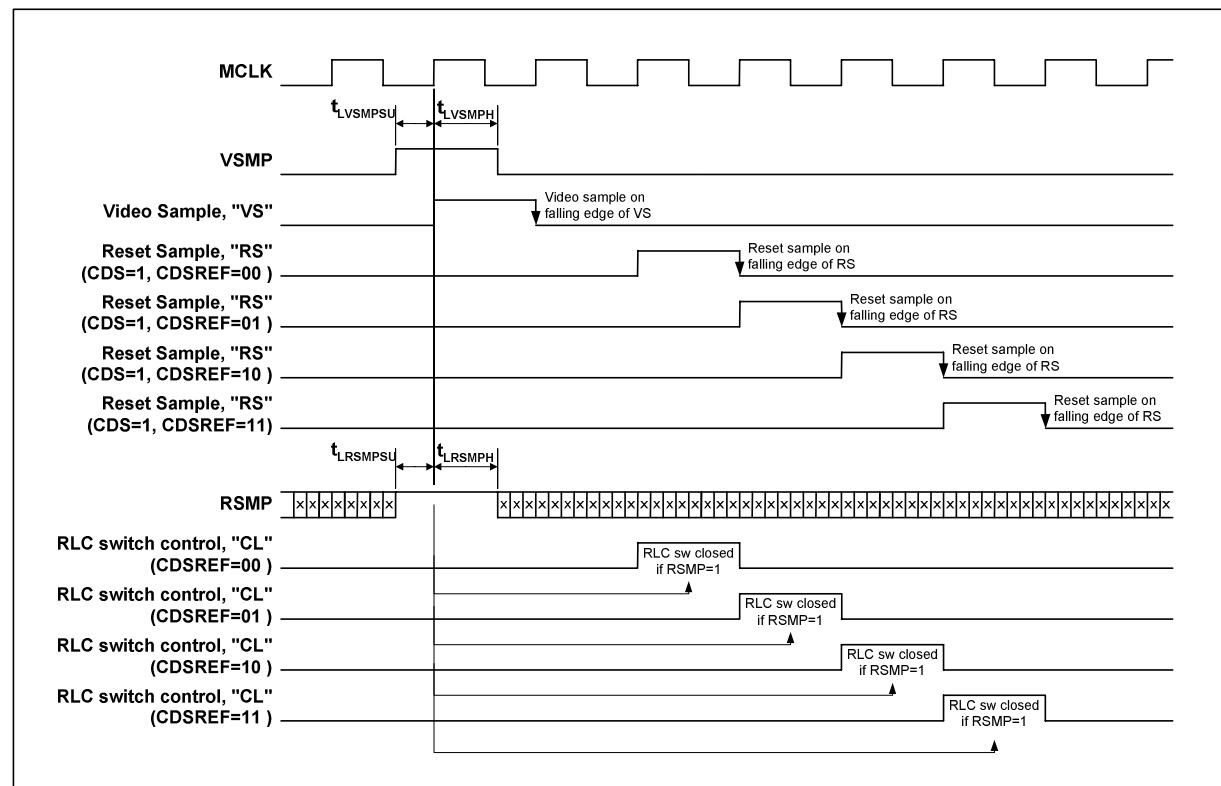

Figure 11 LEGACY Mode RLC and Sampling (LEGACY=1)
Reset Level Clamping in LEGACY mode is only possible in CDS mode and the time at which the clamp switch is closed is concurrent with the reset sample period, RS, as shown in Figure 11. RLC can be enabled on a pixel by pixel basis under control of the RSMP input pin. If RSMP is high when VSMP is high and is sampled by MCLK then clamping will be enabled for that input sample at the time determined by CDSREF[1:0]. If RSMP is low at this point then the RLC switch will not be closed for that input sample. If RLC is required on every pixel then the RSMP pin can be constantly held high in LEGACY mode.
| 1 | 1 | X | X | LEGACY mode RLC works in the same fashion as the WM819x series, where the RSMP pin is equivalent to the RLC/ACYC pin on those devices. The reset sample clock which is generated by the LEGACY internal timing generator is gated with the RSMP pin to produce the RLC control signal CL (see Figure 11) : CL=0: clamp switch open CL=1: clamp switch closed | When using the LEGACY timing mode. |
| X | 1 | 0 | 1 | In this mode the RSMP pin is used to control auto-cycling so can't be used for clamp control. Register bit CLAMPCTRL controls whether RLC is enabled or not. CLAMPCTRL=0, RLC is disabled CLAMPCTRL=1, RLC is enabled and every pixel will be clamped during the control signal CL (see Figure 11). | When auto-cycling in LEGACY mode. |
In LEGACY mode the input video signal is always sampled on the 1st rising edge of MCLK after VSMP has gone low (VS) regardless of the operating mode. If in non-CDS mode (CDS=0) the voltage on the VRLC/VBIAS pin is also sampled at this point. In CDS-mode (CDS=1) the position of the reset sample (RS) can be varied, under control of the CDSREF[1:0] register bits, as shown in Figure 11.